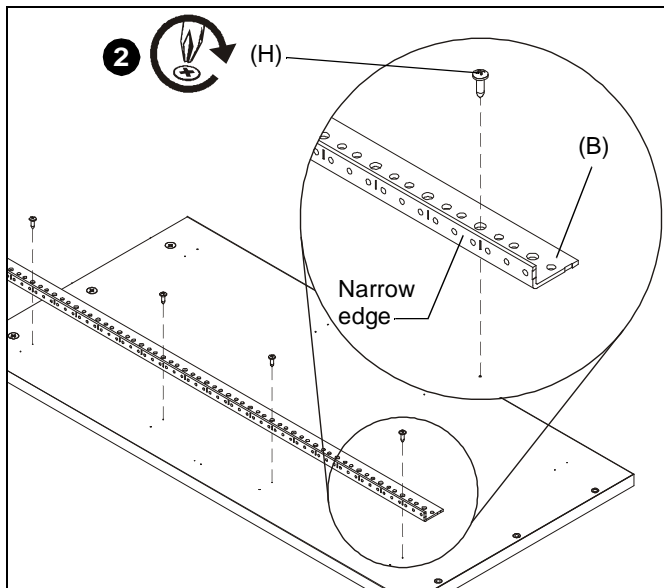

Figure 2
2. Add one rack rail (B) to front pilot holes of each side panel (G) using #10 x 5/8" wood screws (H). (See Figure 2)
NOTE: Insert screws through larger holes on the rack rail, and ensure the narrow edge of rack rail is facing the front of GRF rack. (See Figure 2)